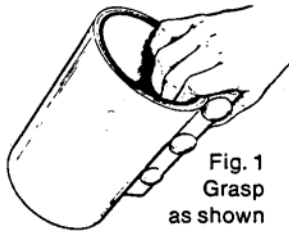
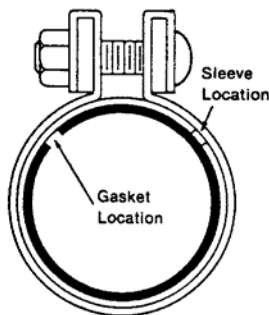

Fig. 1
Fig. 2 Coupling Ready to Install
Couplings are shipped ready-to-install . . . do not disassemble. To prevent gasket from slipping out of proper position, always grasp coupling as shown in Fig. 1. This will save time by maintaining proper position of gasket and sleeve in relation to shelf and flange.
3. Grasp coupling as shown in Figure 1 to keep gasket and sleeve (and gasket protector when used) in separate quadrants as shown in Figure 2. Be sure gasket teeth mesh and do not overlap.